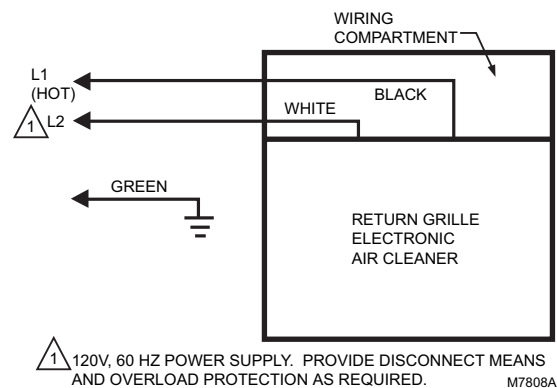

Fig. 9. Typical connections for air cleaner.
1. Disconnect power before beginning wiring to avoid electrical shock or equipment damage. All wiring must comply with applicable codes and ordinances. See Fig. 9.